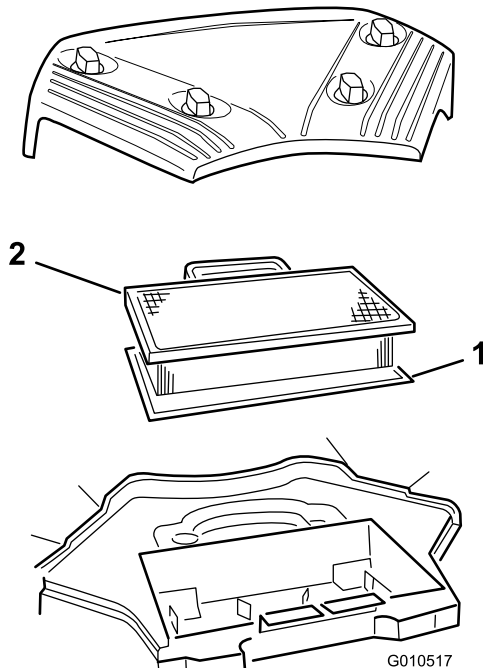

Figure 21
1. Knob (4)
3. Lift out the paper cartridge and the foam element. (Figure 21)